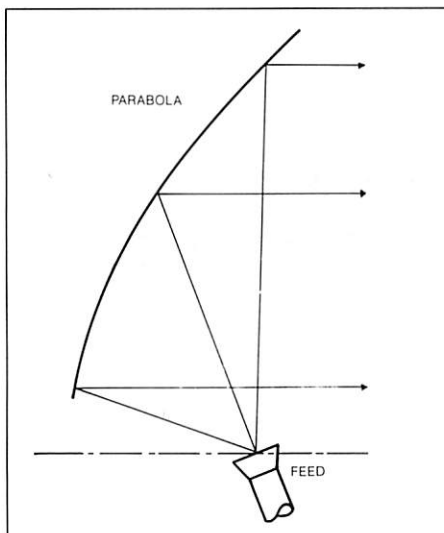

FIG. 2. PARABOLIC REFLECTOR WITH OFFSET FEED
1) *Parabolic Reflectors* (pages 132 and 133). These include prime-focus feed and Cassegrain types. They are used for applications requiring narrow beamwidth, high gain or both. Cassegrain antennas are also offered with single-plane or dual-plane monopulse capability. Custom designed parabolic reflector antennas with offset feeds, which eliminate the aperture blocking and mismatch at the feed, have been made and tested. Since for all practical purposes the offset feed is out of the path of the reflected energy, there is no pattern distortion due to aperture blockage, nor any significant energy intercepted by the feed. The sidelobes of the offset feed antenna were all measured to be greater than 26 dB down when used with a 20 inch parabolic reflector. This configuration is shown in Figure 2.